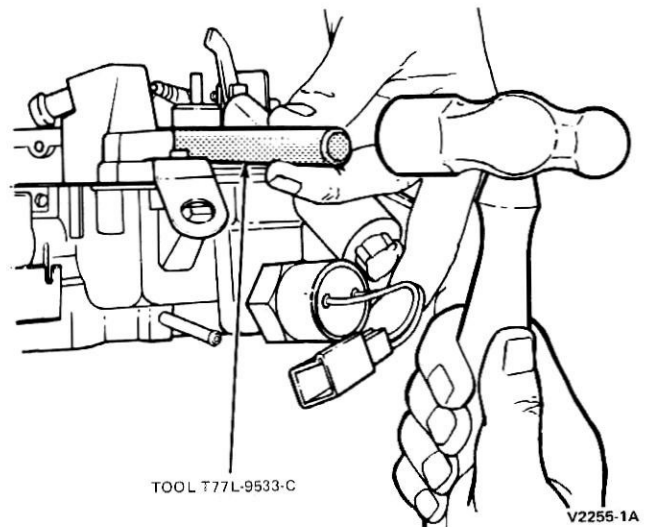
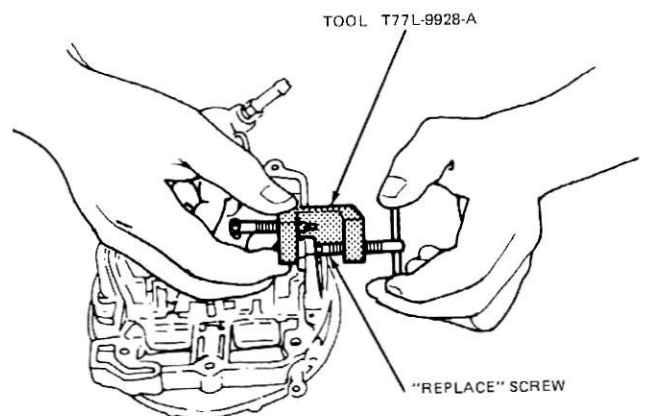

FIG. 35 Installing Main Jet Plugs
FIG. 36 Installing Tapered Plugs
5. Using the special jet wrench (T77L-9533-A) turn each main metering jet clockwise until it is seated in the casting. Then turn each jet counterclockwise the number of turns recorded during disassembly. (39)
6. Using the special jet plug driver (T77L-9533-C) install the jet plugs. Tap lightly until the tool bottoms on the face of the casting. (38) See Fig. 35.
8. Install the venturi valve, carefully guide the metering rods into the main metering jets. (33) Press down on the metering rods. If the springs are properly assembled they will spring back.
10. Carefully press the tapered plugs into the venturi valve pivot pins with Special Tool T77P-9928-A (Fig. 36).
11. Install the venturi air bypass screw. Turn clockwise four turns to provide clearance for installing the cover plate. (30)
17. Install the float bowl gasket. (12)